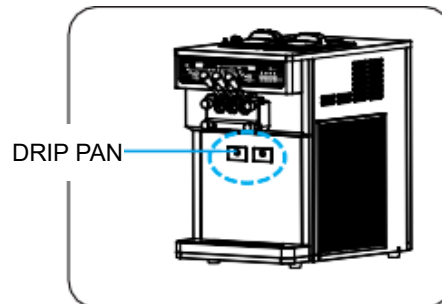
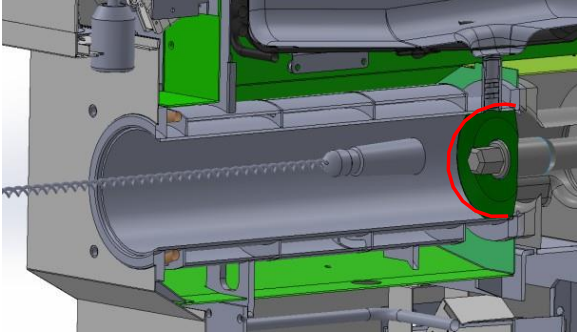

Figure 68
Figure 70
2. Using the "B" brush (Brush 143 in Figure 68): Push the brush gently into the shaft gap and the peripheral gap. Press the inner edge of drum and thoroughly clean out any residue, brushing in a clockwise motion as indicated in figures 70 & 71.